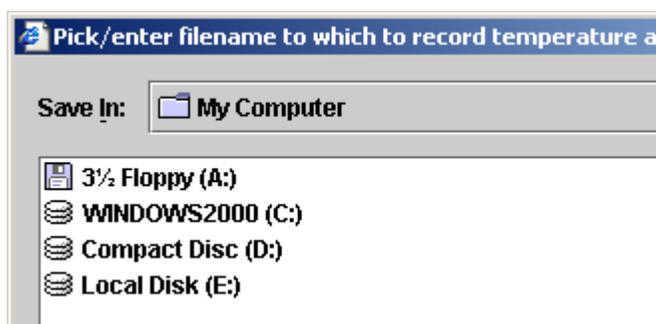

FIG. 34
**Record Temperature and Cycles** - records temperature and cycle information once per minute. A file is opened and data recorded. See FIG. 34.